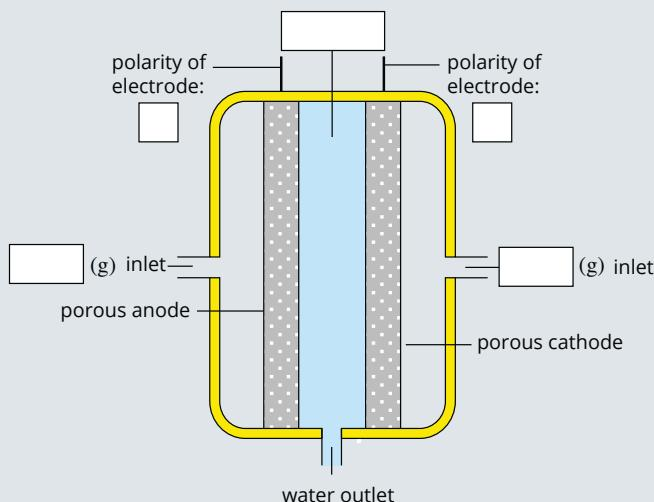

FIGURE 6.2.1 A hydrogen–oxygen fuel cell.
- 7 Label the diagram of a hydrogen–oxygen fuel cell in Figure 6.2.1.